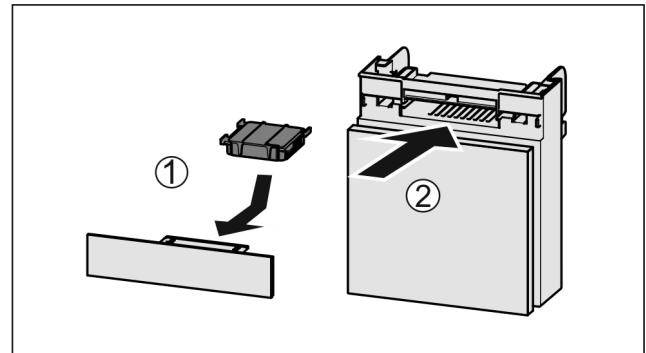

Fig. 156
- Insert the carbon filter as shown in the diagram Fig. 156 (1).
► Push the compartment in Fig. 156 (2).